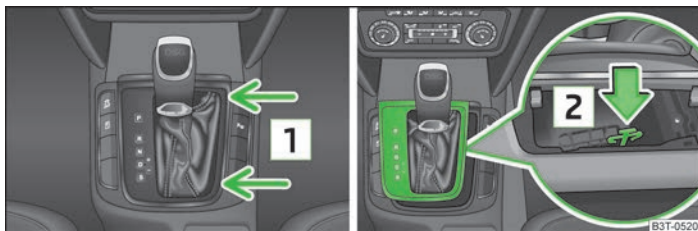

Fig. 128 Selector lever-emergency unlocking
- Grasp the selector lever cover in the area of arrow **1** » Fig. 128 and carefully pull upwards.